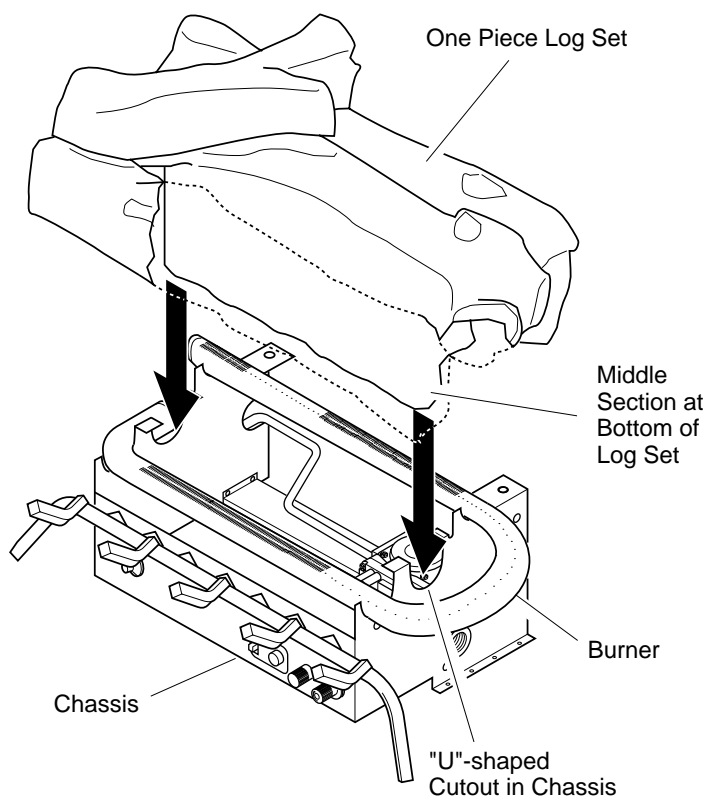

Figure 16 - Installing Golden Oak One-Piece Log Set
1. Place one-piece log set on grate to fit as illustrated in Figure 16. Make sure middle section at bottom of log set is seated into "U"-shaped cutout in center of chassis (see Figure 16). Log will fit securely on chassis. *Note:* 36" model has more features but fits on the chassis the same. **IMPORTANT:** Make sure log does not cover any burner ports.